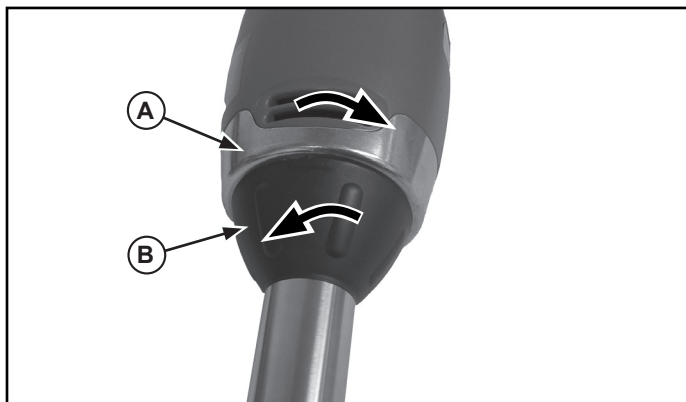

Figure 5. Locking the Attachment Arm to the Power Head.
3. Lock the attachment arm (B) to the power head (A) by rotating until tight, in the direction shown in Figure 5.